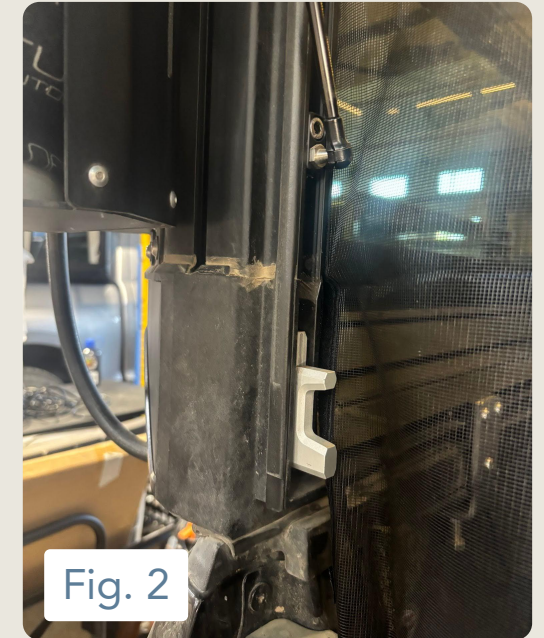

Fig. 2
2. Install awning door by placing the hinge into the support profile. Apply slight upward force to ensure the hinge is properly sitting in hinge channel. (Fig 2)